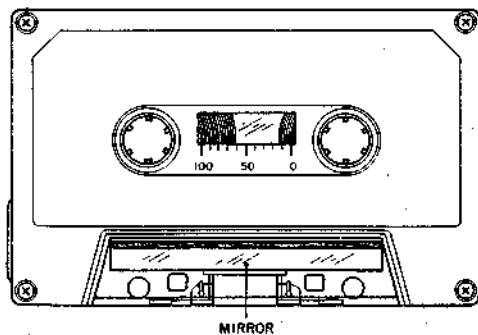

Fig. 16
- 1) When using an ordinary cassette, the tape guides and heads, etc. are not visible. As shown in Fig. 16 use a cassette tape from which part of the cassette case has been cut out and a mirror installed for easy visibility of the head area when making tape guide height adjustment.
4. When a mirror installed cassette test tape as shown in Fig. 16 is required, it can be ordered from AKAI Electric Co.